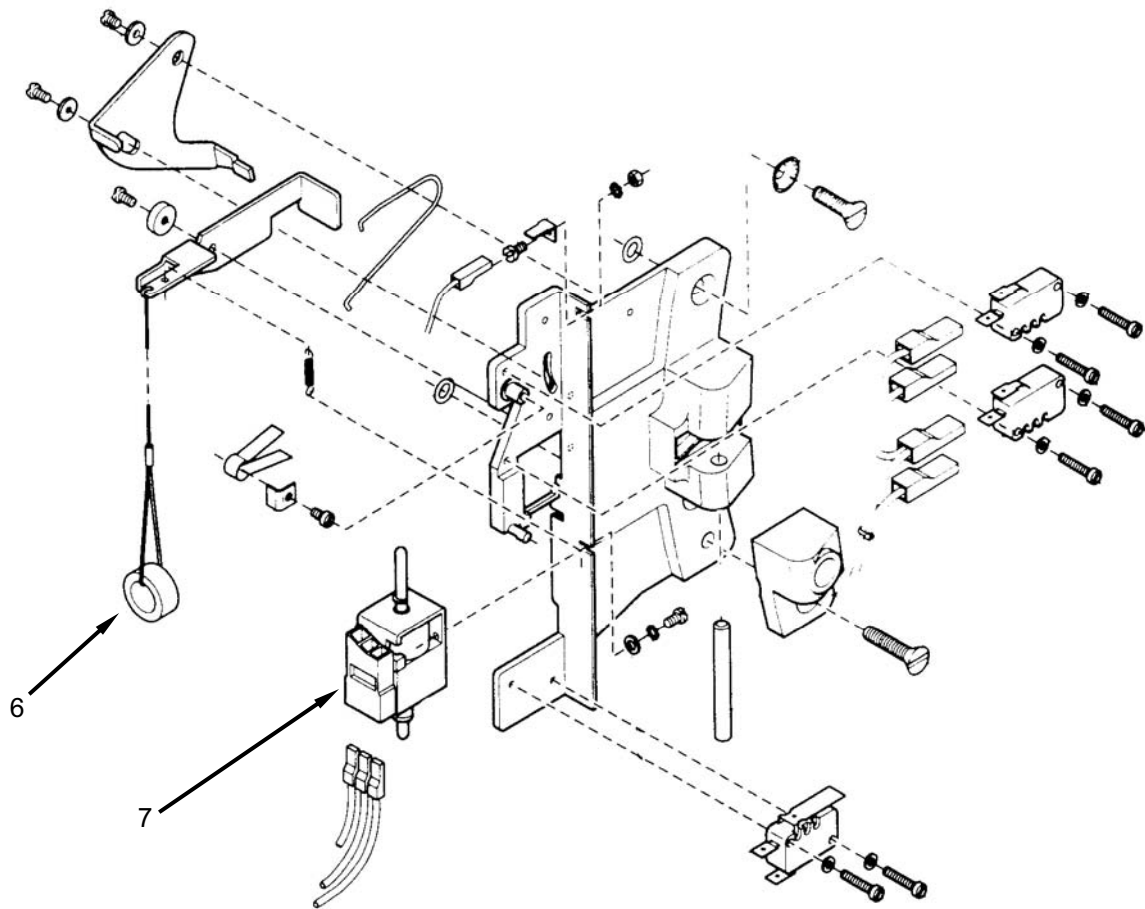

Figure 10. Replace the Door Lock Solenoid.
2. Cut the wire ties (**Figure 10, Item 1**) retaining switch wiring to the washer frame. There may be one or two wire ties.
3. Pull down on release (**Figure 10, Item 6**) and then open washer door.
4. Remove screws retaining door strike assembly (**Figure 10, Item 2**) and remove door strike assembly.
5. Tag and disconnect wiring from solenoid (**Figure 10, Item 7**).
6. Remove screws retaining solenoid (**Figure 10, Item 7**) to door strike assembly (**Figure 10, Item 2**) and remove solenoid.
7. Install replacement solenoid (**Figure 10, Item 7**) onto door strike assembly (**Figure 10, Item 2**) and retain with screws.
8. Connect wiring to replacement solenoid (**Figure 10, Item 7**) as tagged.
9. Install door strike assembly (**Figure 10, Item 2**) and retain with screws.
10. Retain wiring with wire tie (**Figure 10, Item 1**).